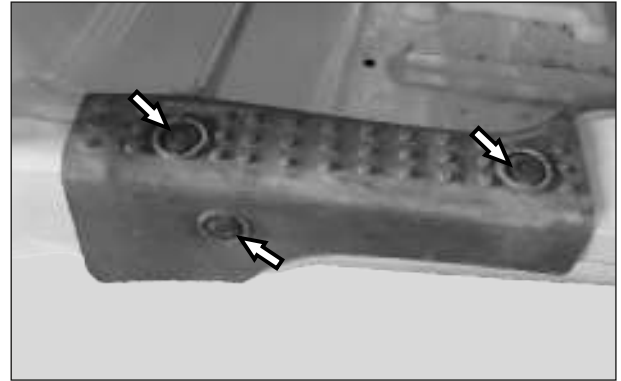

Fig. 5.104
- Unlock button assembly floor mat LH and RH. (Fig. 5.104)